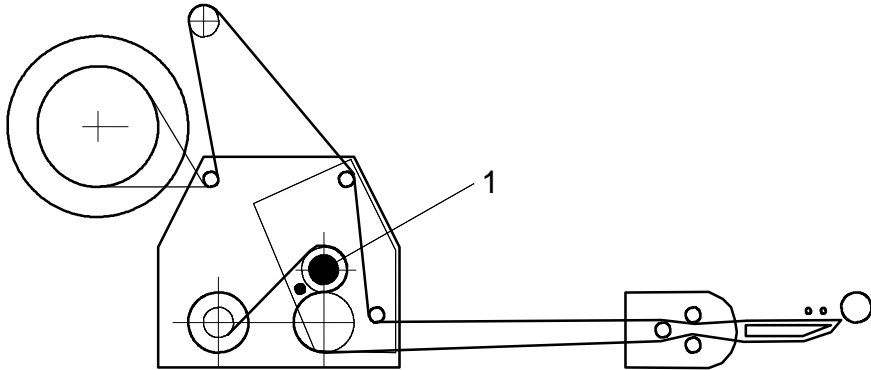

Figure 3
Thread the labelweb as shown in figure 3 up to the dispensing edge and draw it out by approx. 1 m. Detach the labels from the paperweb at the drawn-out web. Then open the pinchroller by turning the knob (1), place the paperweb over the dispensing edge and finish threading the paperweb as shown in figure 3. Close the pinchroller. Adjust the side guides of the paperweb well, leaving 0.5 mm free space to the paperweb's edge.